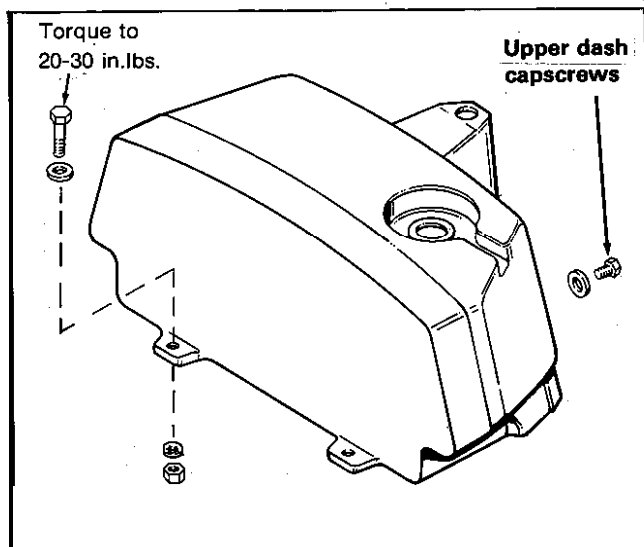

Figure 8. Upper Dash
- b. Raise the hood and loosen the two screws, plain washers, dished washers and nuts from front side of dash (see figure 8).
28. Reinstall lower dash with four capscrews and washers. Position the upper dash **over** the fuel tank. Install the original hardware (figure 8).